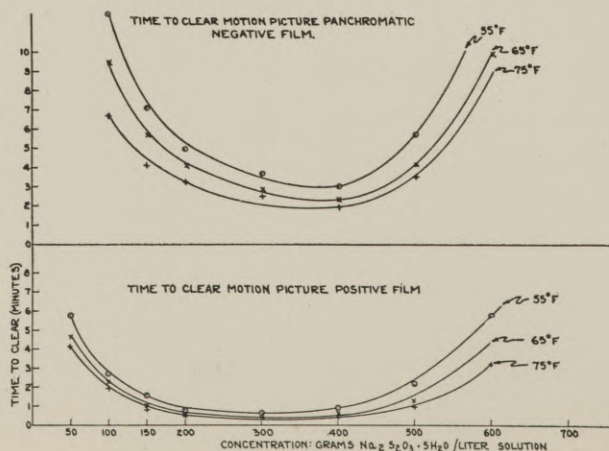

FIG. 2
Mees and C. W. Piper (1) published data on the quantities of silver bromide necessary to saturate aqueous solution of sodium sulfite. Under developing conditions saturation may not be reached and the rapidity of solution may be affected by the other chemicals present. To test this solvent action in developers, test series were mixed differing only in sulfite content. Equal quantities of film were developed for equal times determined. Fig. 2 shows the change of silver content with increase of sulfite concentration. The slope of this curve is increasing rapidly, showing that a markedly greater effect of the solvent action is to be expected at the higher sulfite concentrations. The actual amount of silver observed in the developer was only a small proportion of the silver on the film, so small in fact that we hope to test more fully this solvent action to see if it really is a sufficient cause for the decrease of density observed.
Fig. 2. Relative silver content of developers after eight minute agitated development with the equivalent of 32 ft. of film per liter. The developing formula was sodium sulfite, varied; metol, 2.5 g/l; borax, 5 g/l.